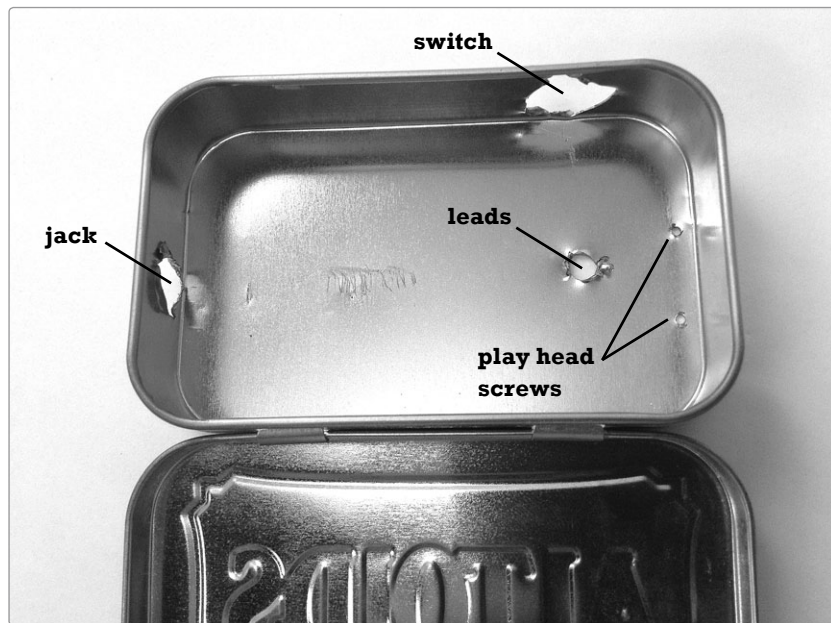

FIGURE 5-8: The distribution of holes in the enclosure, for the jack, the switch, the leads, and the play head screws. (Raggedy holes should work just fine.)
- Step 6** Set all of your wiring aside and prepare the enclosure. The jack will require a 3/8-inch or 1/2-inch hole. Drill this hole on the short side of the tin. In Figure 5-8, this hole is the one farthest to the left. If you're using an Altoids tin–style enclosure, place the hole as far from the rolled upper lip as possible, otherwise you won't have enough clearance for the lid to close once the hardware is inside.
- Step 7** Next, drill a 1/4-inch hole in the bottom of the tin, opposite the jack hole. The 1/4-inch hole allows your leads to connect to the play head. As Figure 5-8 shows, this hole is about an inch from the nearest edge of the case and centered. Add a pair of 1/16-inch screw holes near the edge of the tin to secure the play head. Play heads are fairly standard, but just in case, check first to be sure that the screws you retained in Step 2 are slightly *larger* than 1/16 inch. Also, measure the spacing of the mounting holes; they tend to be around 3/4 inch apart.